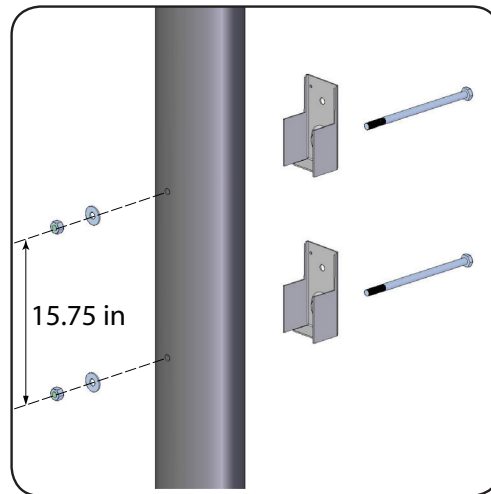

Figure 6.8 - Installing the mounting brackets
4. Secure each bracket to the pole with a 5/8" machine bolt, washer and nut (Figure 6.8) (to be supplied by the installer). Do not fully tighten the bolts at this time.